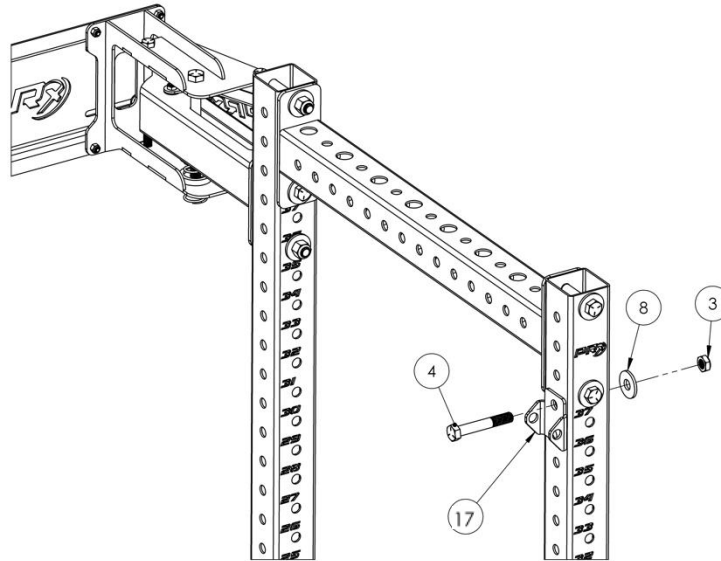

Figure 8: Bolting on the Pull-Up Bar Pin Plate
2. Attach the Pull-Up bar Pin Plate (17) to be even with the opposite pull-up bar bracket using a 4" x 5/8" Hex bolt (4), a 5/8" flat washer (8), and a 5/8" thin locknut (3) (**Figure 8**).